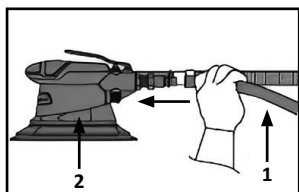

Fig. 6
1. Disconnect the air hose (1) from the tool (2). (Fig. 6)